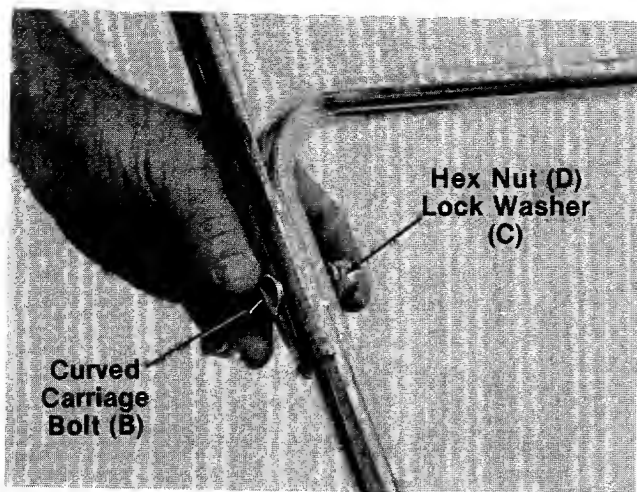

FIGURE 3.
4. Place upper handle in position over lower handle. Control housing should be on the **left** side of the handle. Secure with two carriage bolts (B), lock washers (C) and hex nuts (D) as shown in figure 3.